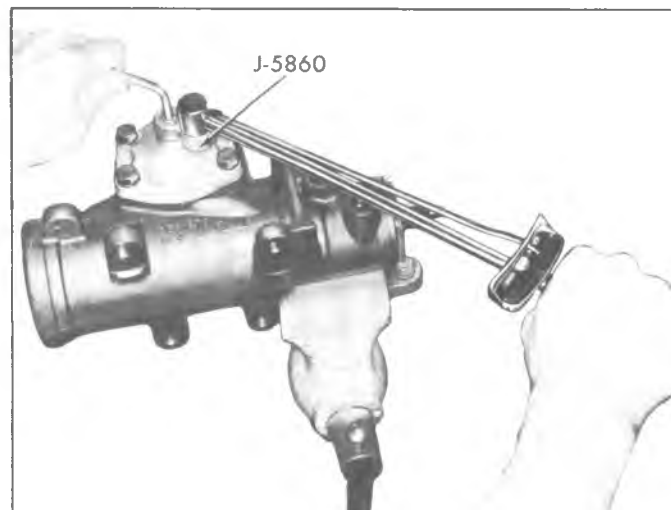

Fig. 62—Torquing Over-Center Locknut
- e. While holding the adjusting screw, tighten the lock-nut to 35 ft. lbs. using using Adapter J-5860 (fig. 62) and recheck the adjustment.